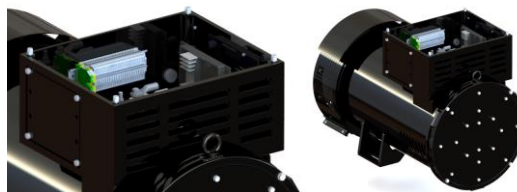

Figure 6.3: Position for the blocks rule
7. Attach the rail with blocks in the internal part of the terminal box according to Figure 6.3. To attach the rail, use drilling with drill bit tip M4.